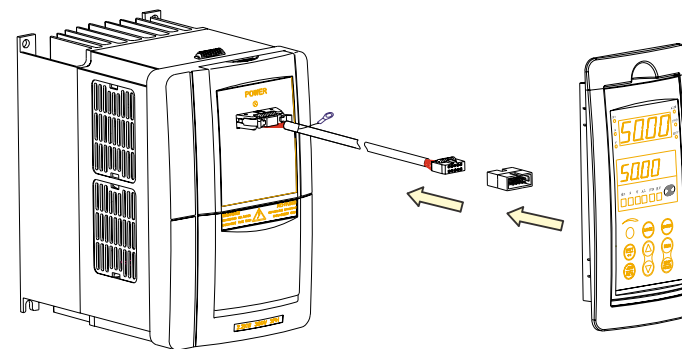

Fig. 3-11 Mounting Diagram for the operator panel and connecting wire of the inverter Model A
Step 4. Put the dismantled operator panel into the installation frame provided in the optional components, fix and fasten it. Plug the other end of connecting wire into the jack panel slot, then plug the slot into the operator panel (as shown in the figure 3-11).